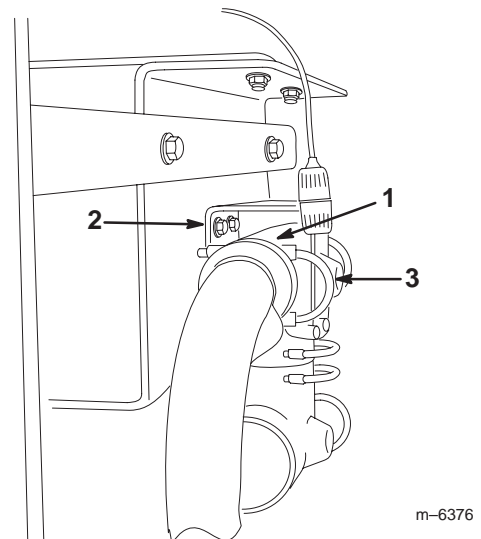

Figure 10
6. Remove the fasteners securing the tee behind the boom supply valve so that the tee will drop down, hanging on the hoses (Fig. 10).
7. Carefully drill a hole (1/4 inch dia) in the face of the port on the back of the tee (Fig. 10).
4. Wrap Teflon tape counterclockwise around the threads of the small silver fitting that is packaged with the red tubing and install it into the port you drilled out on the tee in front of the boom valves (Fig. 10).